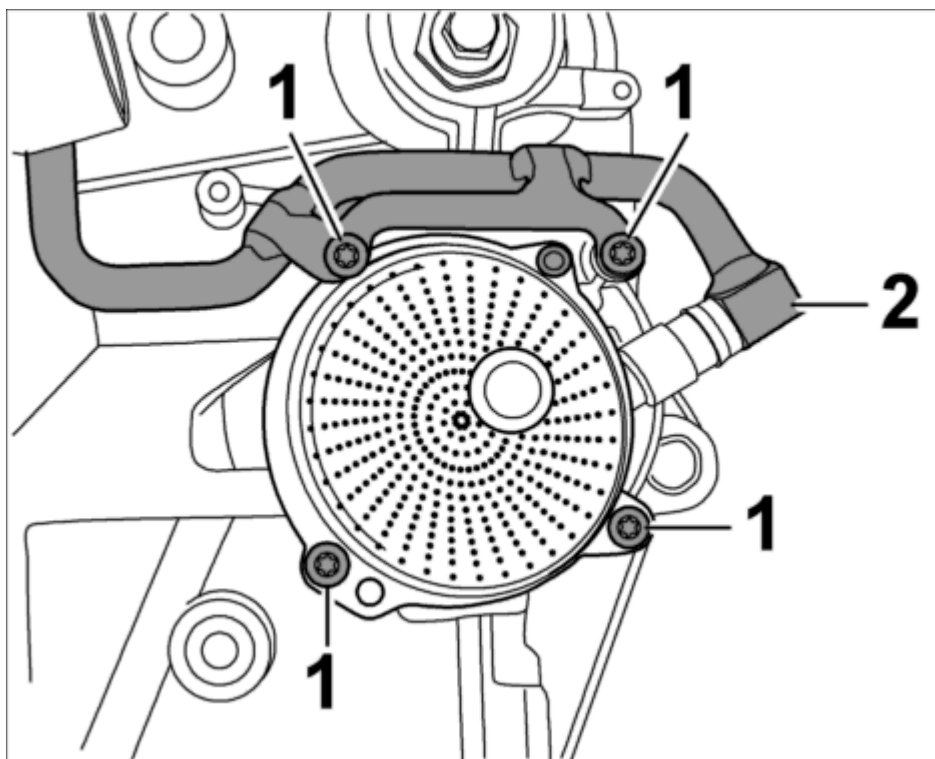

Fig. 221: Tandem pump side 4 - 6
8. Mount the oil suction pump or tandem pump with four new, micro-self-locking Torx screws **-1-** . Replace O-rings on the pumps and the vacuum line **-2-** . Lightly grease O-rings with Optimol MP3. --> **Tightening torque: 10 (7.5 ftlb.) Nm** . See **Fig. 221**.